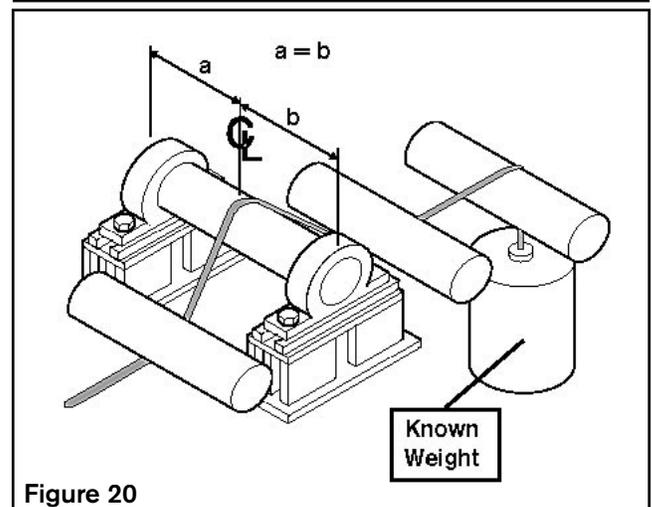

Figure 20
2. Under Calibration Set 1, enter the web tension that will be used to calibrate the span condition into the SPAN TENSION box . Span Tension is equal to the weight as shown in Figure 20 and should be set as close as practical to MAXIMUM SETPOINT.
5. Load the tension sensing roller, as shown in Figure 20, using the amount of web tension entered for SPAN TENSION in step 2 and then press OK.